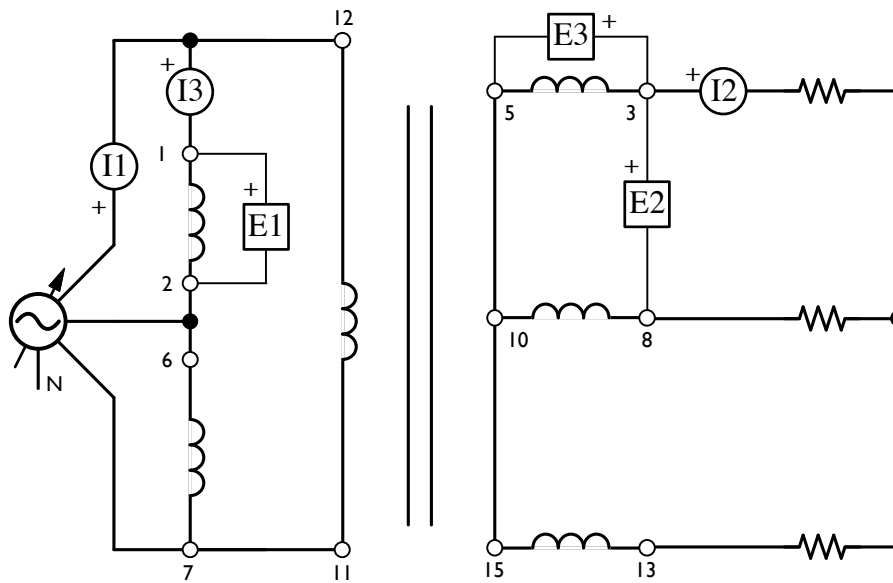

Figure 2.6: Three-Phase Transformer Connected in Delta-Wye. Note: construct circuit without meters.
- 37. With the power off, connect the Three-phase Transformer module in the $\Delta - Y$ configuration shown in Figure 2.6 however do NOT include the voltmeters or ammeters until the instructor has checked your circuit. Set the load resistors to **300 Ω** each. Since all load resistors have the same resistance the load is a *three-phase balanced load*. Under these conditions the rms voltage and current values are the same in all three phases.